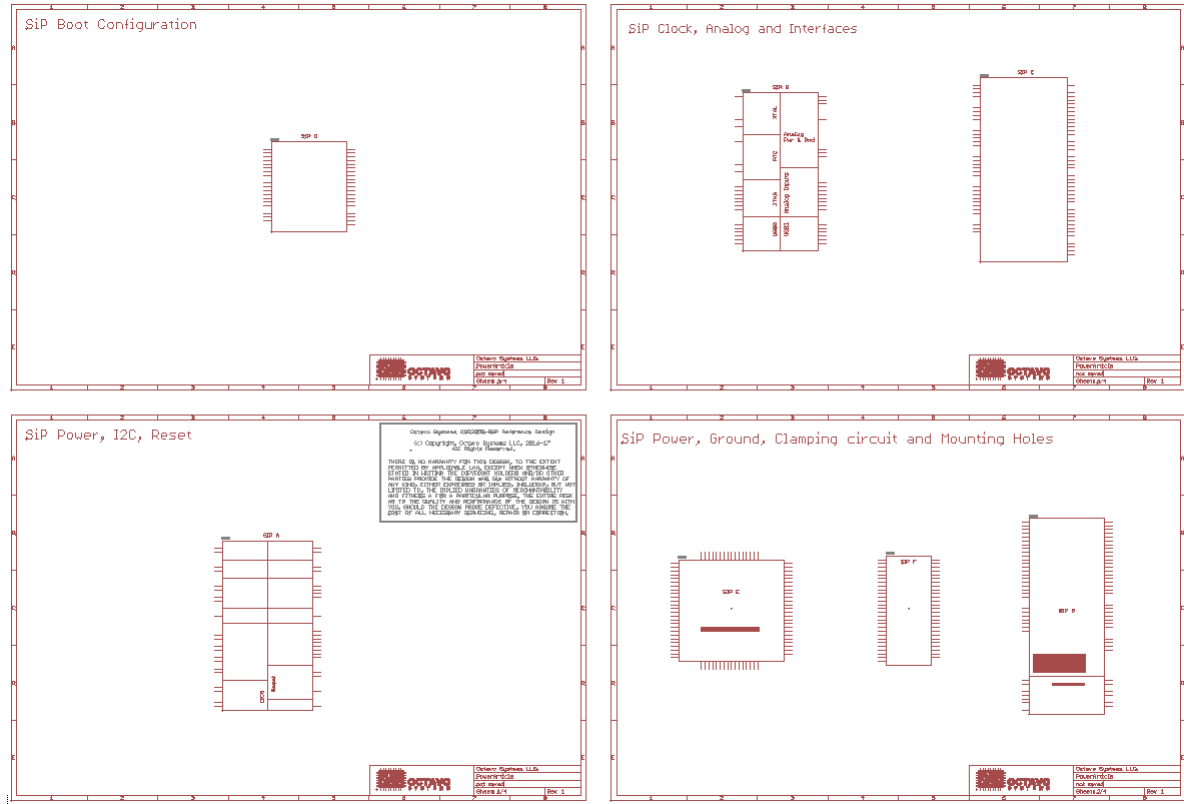

Figure 5 OSD335x symbol arrangement on schematic
- From the library, add the *OSD3358-512M-BAS* symbols to the schematic as shown in Figure 5. The *OSD3358-512M-BAS* symbol will easily fit into A3 size sheets. In the design files, all four A3 *sheets* are consolidated into a single